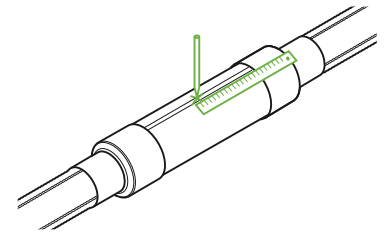

Fig. B12.2.10
10. Mark a dot in the top middle of the Heat Shrink Sleeve (Fig. B12.2.10).